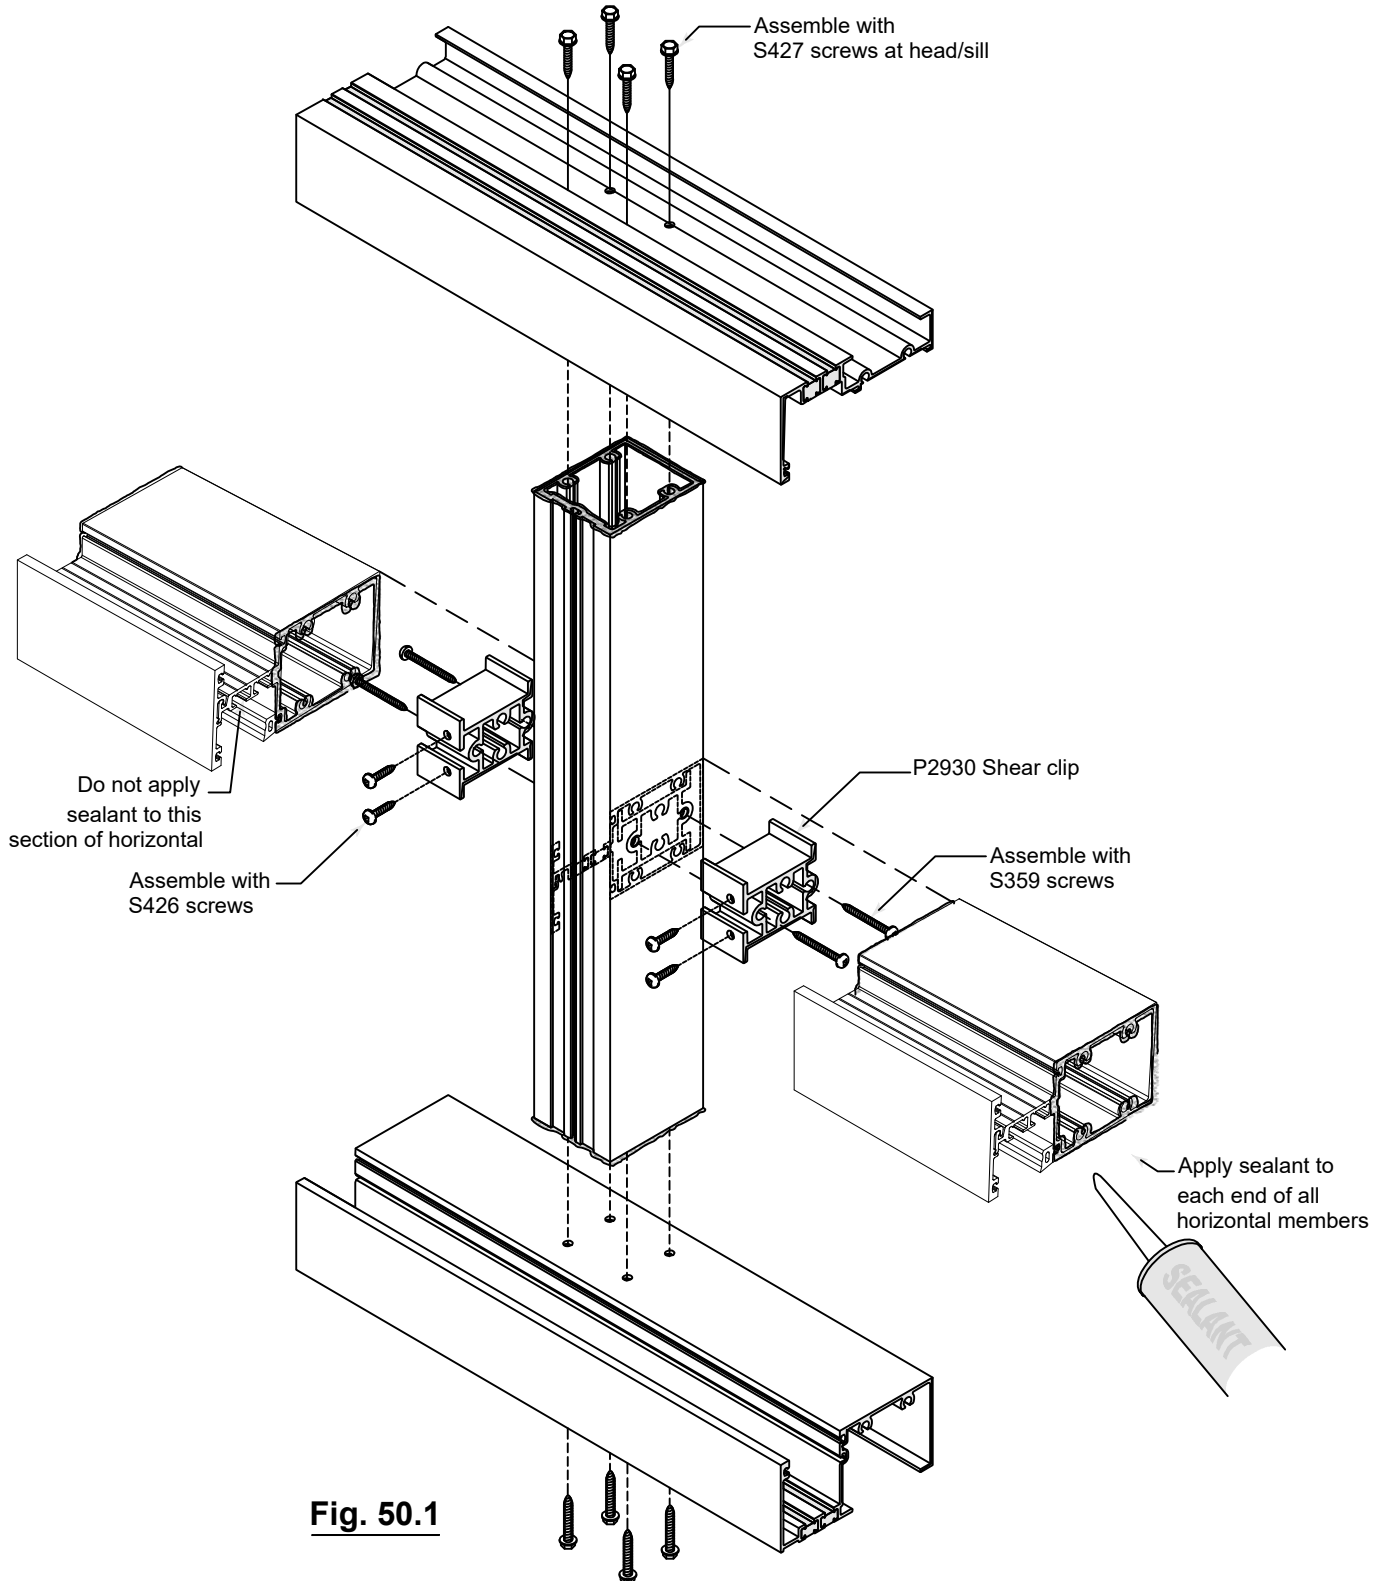

Fig. 50.1
- A. Install shear blocks onto vertical with S359 1/4"-20 x 1-1/2" HWH screw as shown in **Fig. 50.1**.
- D. Head and sill members run through. Attach head and sill members to verticals with (4) S403 screws.
- G. Secure intermediate horizontal with (2) S426 #10 x 5/8" pan head screw.